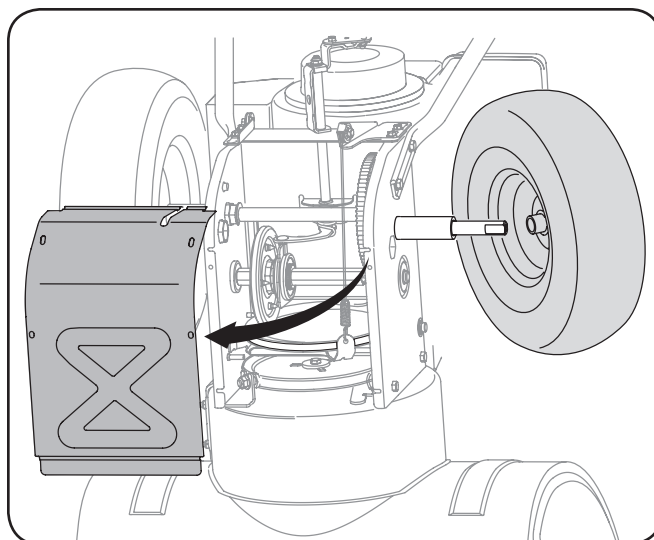

Figure 7-9
3. Remove the frame cover from the underside of the snow thrower by removing the self-tapping screws which secure it. See Fig. 7-9.
4. Remove the frame cover from the underside of the snow thrower by removing the self-tapping screws which secure it. Remove the right-hand wheel by removing the screw and bell washer which secure it to the axle. See Fig. 7-9.